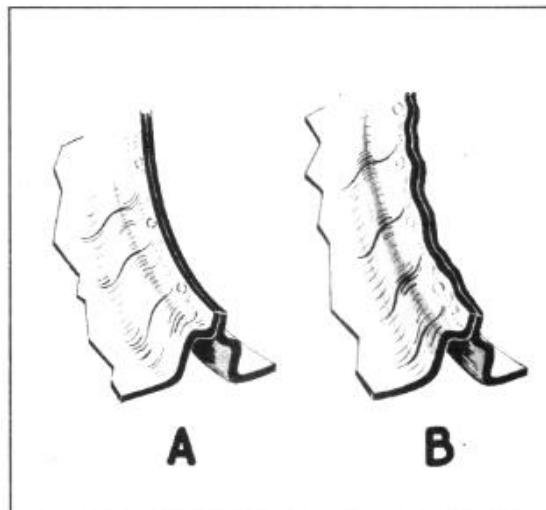

FIGURE 41
**NOTE: The welded flange joint (A), Figure 41, forming the windshield opening must be straight throughout the entire windshield area. A wavy area as shown at (B) must be straightened to ensure positive sealing between the reveal moulding and the windshield flange joint and between the reveal moulding and windshield weatherstrip.**